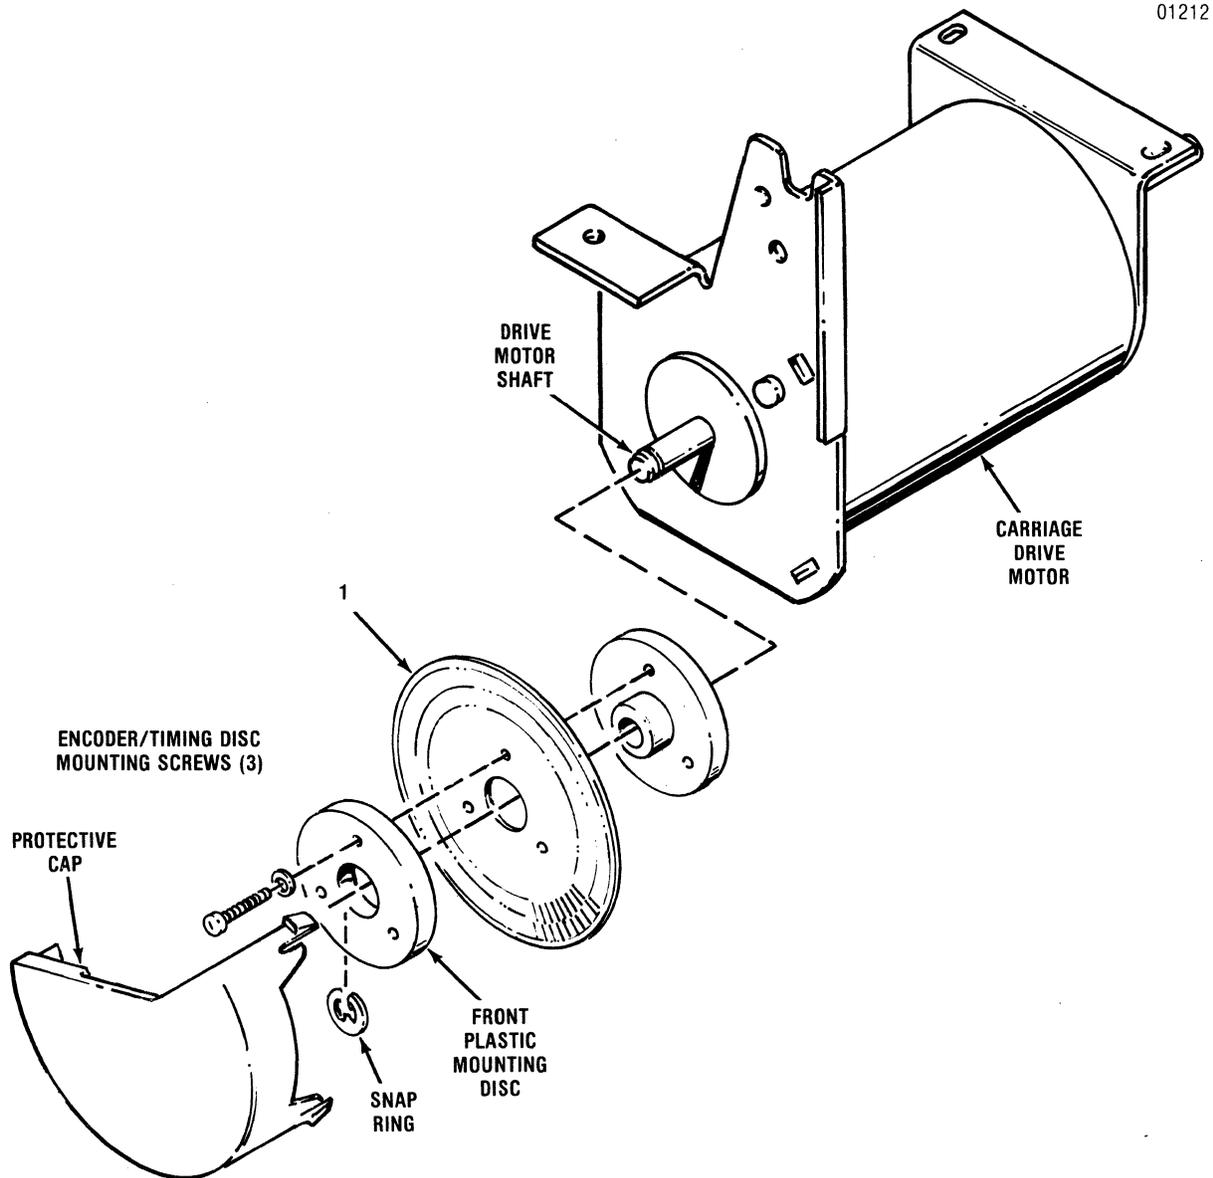

Figure 5-12 Removal/Replacement, Encoder/Timing Disc
The encoder/timing disc, item 1 in Figure 5-12, is located at the end of the carriage drive motor shaft and is removed using a Phillips head screwdriver. To remove the disc, refer to Figure 5-12 and perform the following steps: